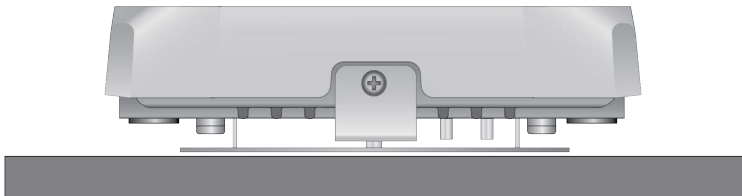

Figure 7. Approved and Unapproved Orientations on a Ceiling, Wall, or Table
- ❑ Refer to Figure 7 on page 25 for approved and unapproved orientations of the wireless access point on a table, wall, or ceiling.
1. Choose the location and orientation for the access point on the wall or ceiling. Refer to Figure 7 on page 25.